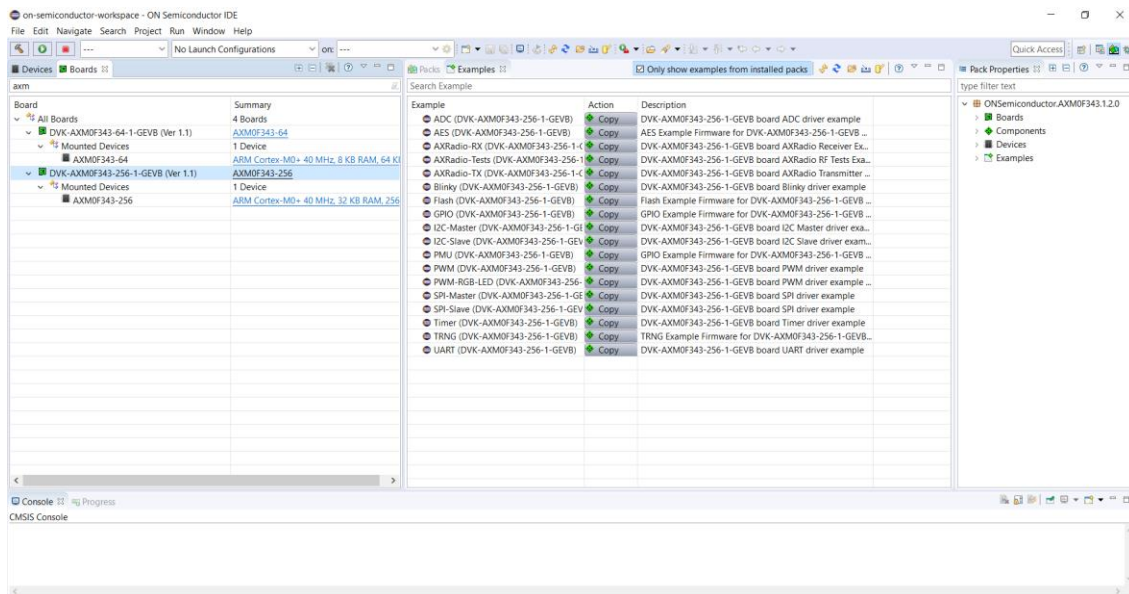

Figure 8 - Available applications for the selected 256K FLASH memory size.
3. Select the *Examples* tab to the right to view all the available applications for the selected board. (See Figure 8)